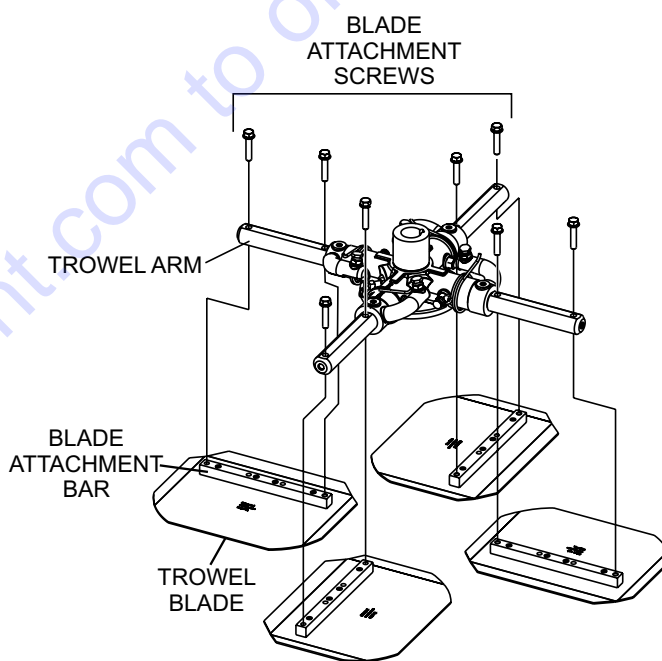

Figure 64. Blade Removal
2. Remove the bolts and lock washers from all the trowel arms, and then remove the blades as shown in Figure 64.